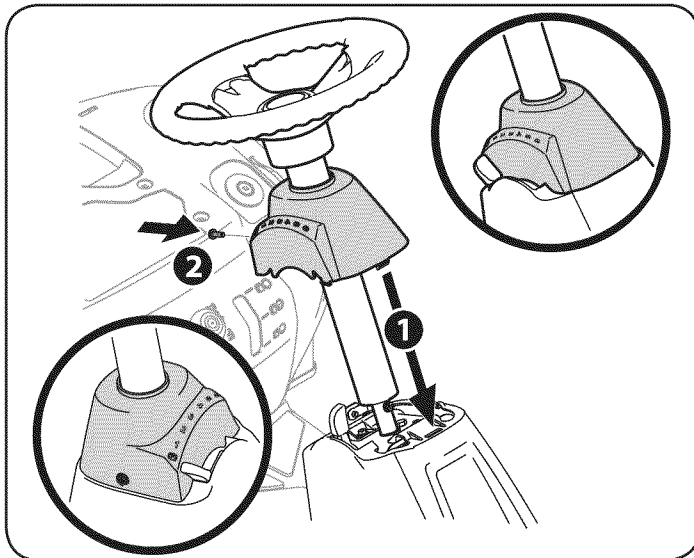

Figure 3
6. Slide the Pedestal cap down onto the tractor (1) and clip into place. Secure the pedestal with the hex screw (2) from the hardware pack. See 6. Slide the Pedestal cap down onto the tractor (1) and clip into place. Secure the pedestal with the hex screw (2) from the hardware pack. See Figure 3..